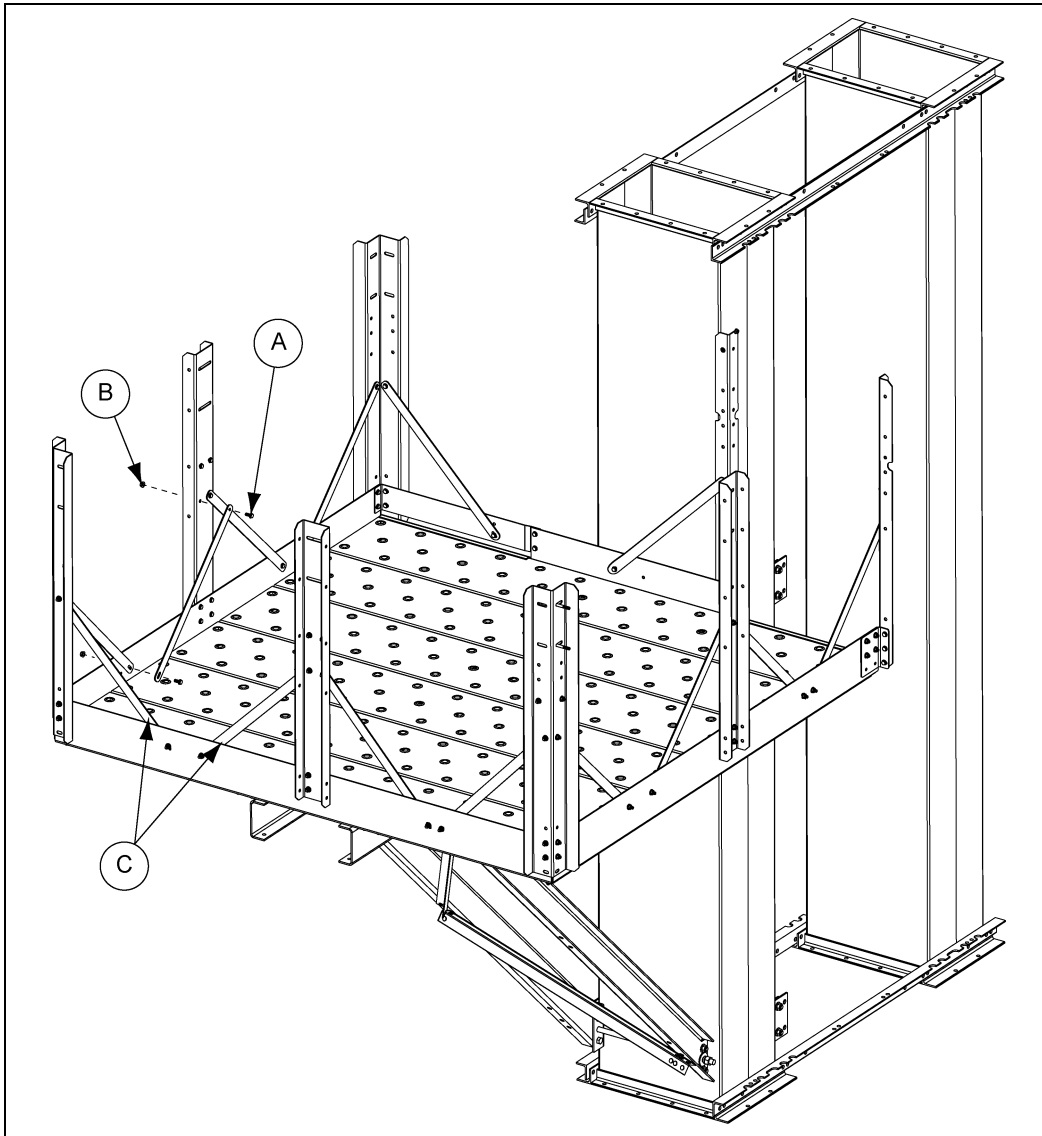

Figure 13I
Between each of the three (3) "W" corner posts (HP1648HWP), platform post (HP1648HCP) and safety gate side post (HP1648HP), attach two (2) tie braces (safety cage bar (LDR-5171BE)) from the lower half of the post to toe boards using 5/16"-18 x 3/4" ZN grade 5 bolts (S-6606) (A) and 5/16"-18 YDP grade 2 flange nut (S-3611) (B). (See Figure 13I.)